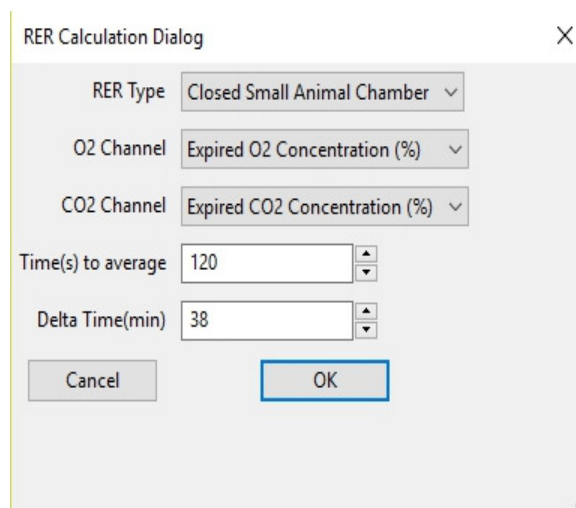

Figure AMe-7: RER Calculation Dialog window.
2. Select and display a section of data that shows the change in CO2 concentration at 1% (Figure AMe-7).
- Click AutoScale on all channels. Your data should look like the data seen in Figure AMe-7.